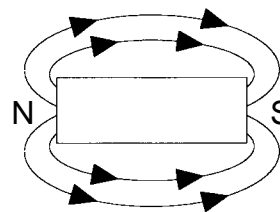
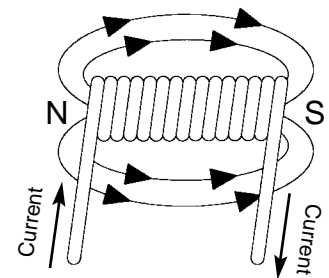

Figure 11-1a
Figure 11-1b
**BAR MAGNETS** - Figure 11-1a shows a bar magnet. The magnet is similar to a compass needle. It has a North seeking end and a South seeking end and thus its ends are labeled N and S. The magnetic field consists of lines of force (magnetic flux) which form closed paths through the magnet. By convention, the lines are thought of as flowing out of the North end (pole) back around to the South end and then through the magnet back to the North end. The lines shown indicate the direction of the magnetic field, that is, at every point they are tangent to the direction, a compass needle would point if placed at that point. The strength of the magnetic field is indicated by the density of the lines, that is, the number of lines per unit area. For example, a field strength of 1 gauss has 1 line square centimeter.
If we apply a voltage to a coil of wire, shown in Figure 11-1b, a current will flow in the wire and a magnetic field will be produced. The magnetic field produced by the current is the same as that of the bar magnet. It can, however, be easily varied by changing the current in the coil. If the current in the coil is reversed, the field is proportional to the current. Doubling the current will double the strength of the field.
**INDUCING VOLTAGE** - Above we used a voltage to produce a magnetic field. We may also use a magnetic field to produce a voltage. This can be done by inserting the magnet of Figure 11-1a into the coil of Figure 11-1b. The magnetic lines of force of the bar magnet cutting the wires of the coil induce a voltage in the coil. The voltage is proportional to the rate of change of magnetic lines (magnetic flux) linking the coil. Thus, the faster the magnet is inserted, the higher the voltage. Once inside the coil and stationary, the number of lines linking the coil is high, but the rate of change of the lines is zero and there is no induced voltage. When the magnet is withdrawn, a voltage of opposite polarity is induced.
**FERROMAGNETISM** - An electron spinning around the nucleus of its atom is an electric current just like the current in the coil mentioned above. It therefore generates a small magnetic field. The electron spinning on its own axis also contributes to the field. In a piece of ordinary matter, the small magnetic fields generated by the individual electrons are randomly oriented. They therefore cancel each other out, leaving the material as a whole unmagnetized. When certain materials known as ferromagnetic materials are subjected to an external magnetic field, some of the small magnetic fields align themselves with the external field and the material field itself becomes magnetized. Thus, if a cylinder of ferromagnetic material were inserted into the coil of Figure 11-1b, the cylinder would become magnetized and the field around the coil would greatly increase. A cylinder of a non-ferromagnetic material would have no effect on the field.
further negative, the sample again saturates at D. When the magnetizing force is brought positive again, the field strength follows the path D-E-F back to A. Figure 11-1b shows the hysteresis loop for a soft magnetic material. Note that the remnant magnetization and the coercive force are much less than for hard magnetic materials.